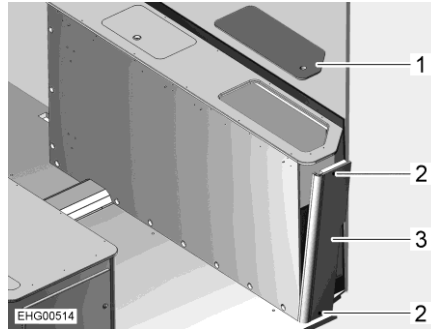

Fig. 117 Bedding box on the right
- Remove the service cover (Fig. 117,1).
- Unscrew 2 screws (Fig. 117,2).
- Reach into the bedding box from above and press the side wall (Fig. 117,3) slightly outwards.